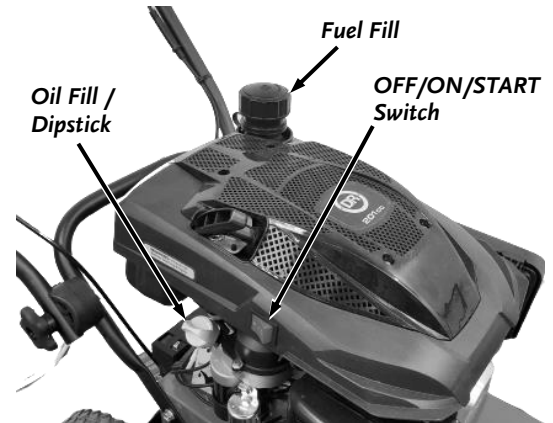

Figure 13A
1. Check the oil level every time you use the DR TRIMMER/MOWER (**Figure 13A**).
- If the Engine fails to start after TEN (10) seconds of continuous cranking, release the Start Switch and allow the starter motor to cool. Check the cause of hard starting; See Chapter 5 - Troubleshooting.
1. Push and Hold the OFF/ON/START Switch in the START position until the Engine starts, then release. The Switch will snap back to the ON position and the Engine will continue to run (**Figure 13A**).
1. Switch the Switch to the "OFF" Position (**Figure 13A and 13B**).